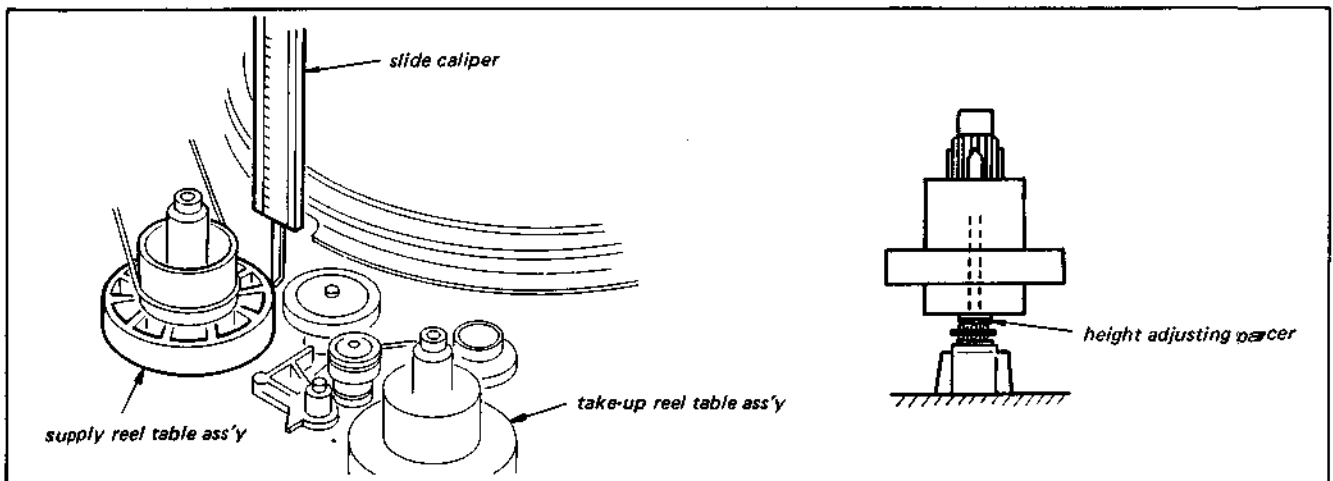

Fig. 3-15. Adjustment of reel table height
1. Measure the height of the reel table with a slide caliper prior to the removal of the old reel table. (See Fig. 3-15.)
2. Place a new reel table, measure its height, and adjust height by adding or removing the adjusting spacer so that the difference in the heights of the former and new reel tables is within 0.1mm. (See Fig. 3-15.)